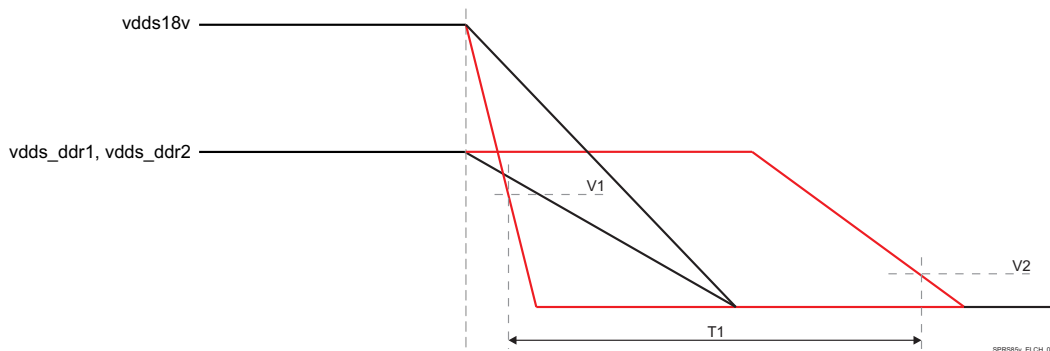

图 5-6. vdds18v and vdds\_dds\* Discharge Relationship(1)
- must satisfy the vdds18v and vdds\_ddr\* Discharge Relationship (see 图 5-6) if vdds\_ddr\* discharge rate is slower than vdds18v.
If vdds18v and vdds\_dds\* are disabled at the same time due to a loss of input power event or if vdds\_dds\* discharges more slowly than vdds18v, analysis has shown no reliability impacts when the elapsed time period beginning with vdds18v dropping below 1.0 V and ending with vdds\_dds\* dropping below 0.6 V is less than 10 ms (图 5-6).